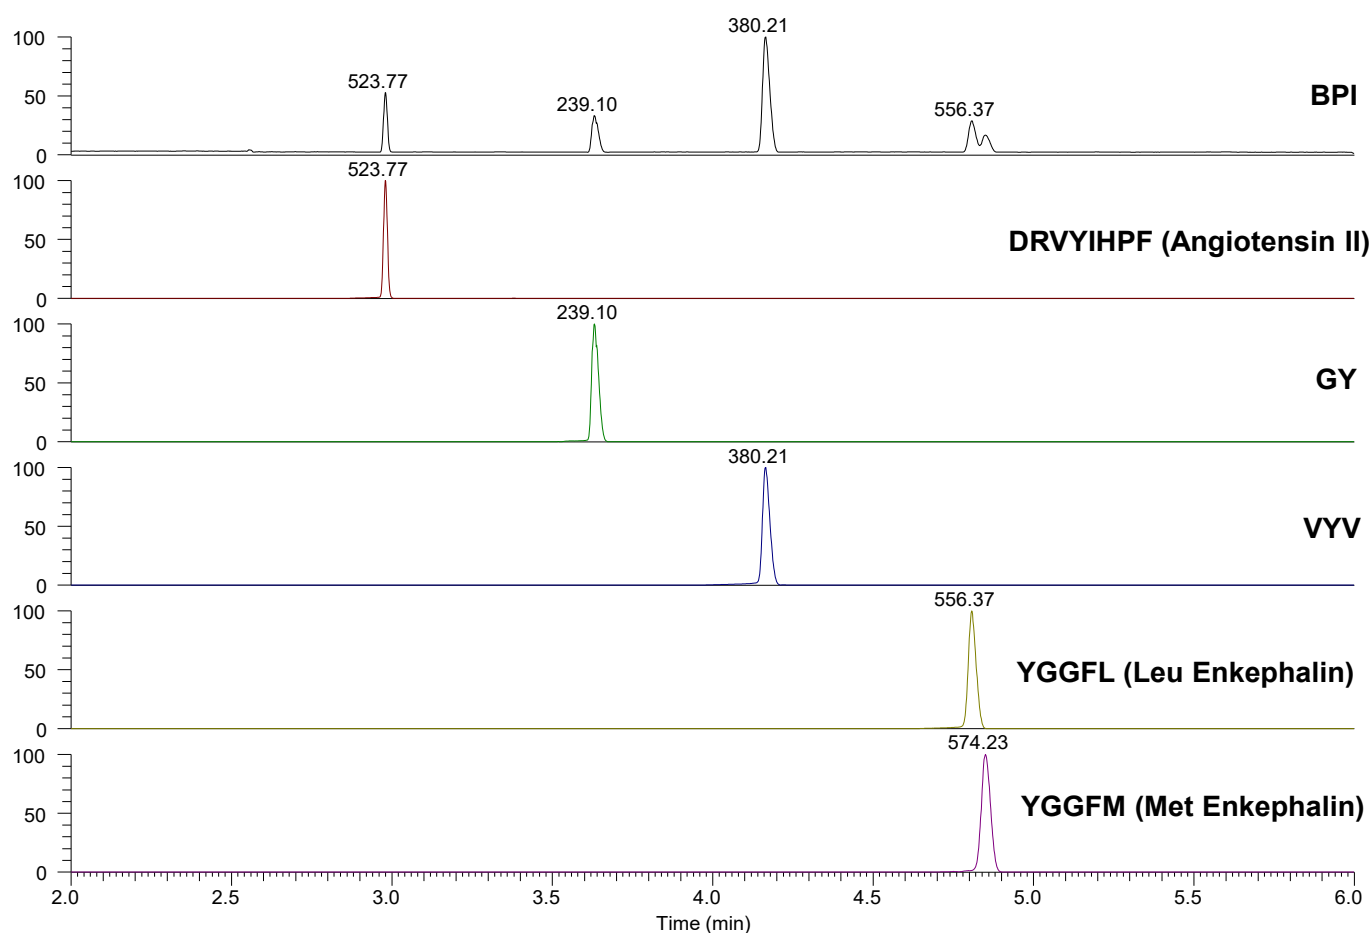

Figure 1: Basic species will migrate before acidic species. Peak shapes should be gaussian (Data was collected on an Exactive Plus EMR operated in Normal mode).
1. Ensure the base peak intensity is within the dynamic range for the instrument. Example electropherograms of the standard peptide mixture are provided in Figure 1 and display typical intensity values.